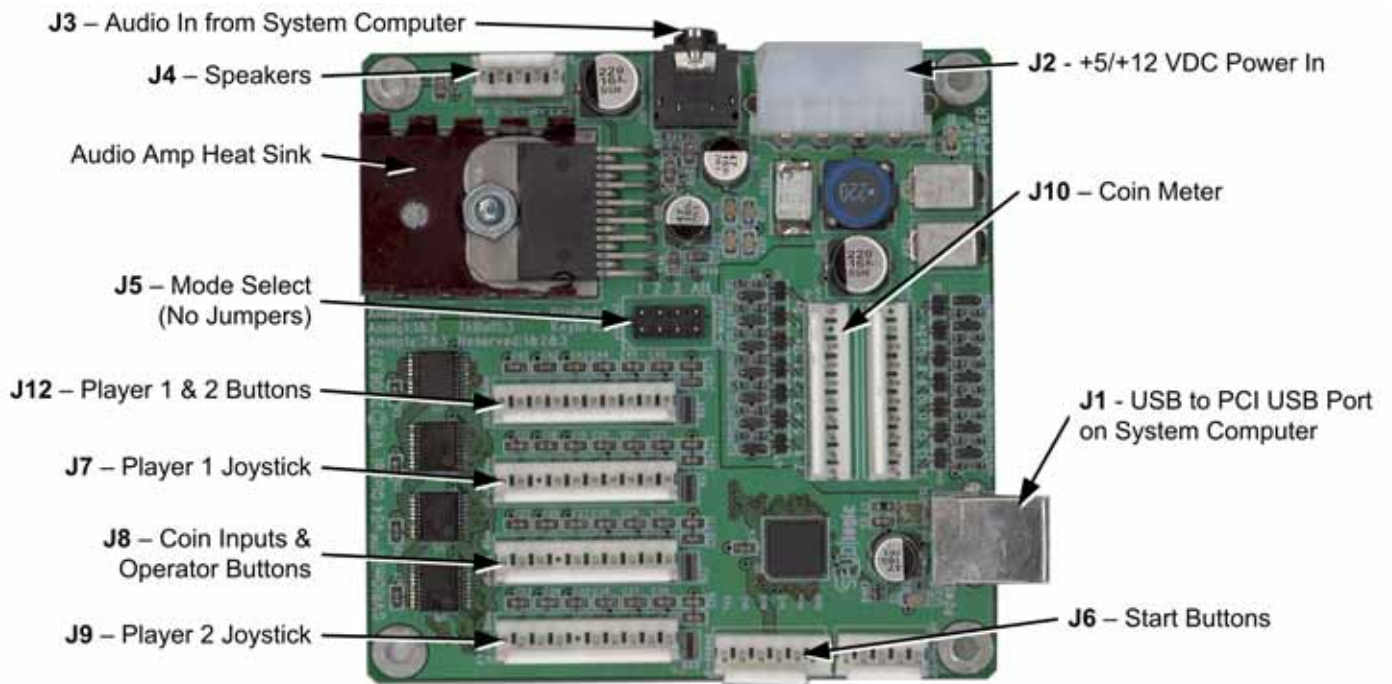
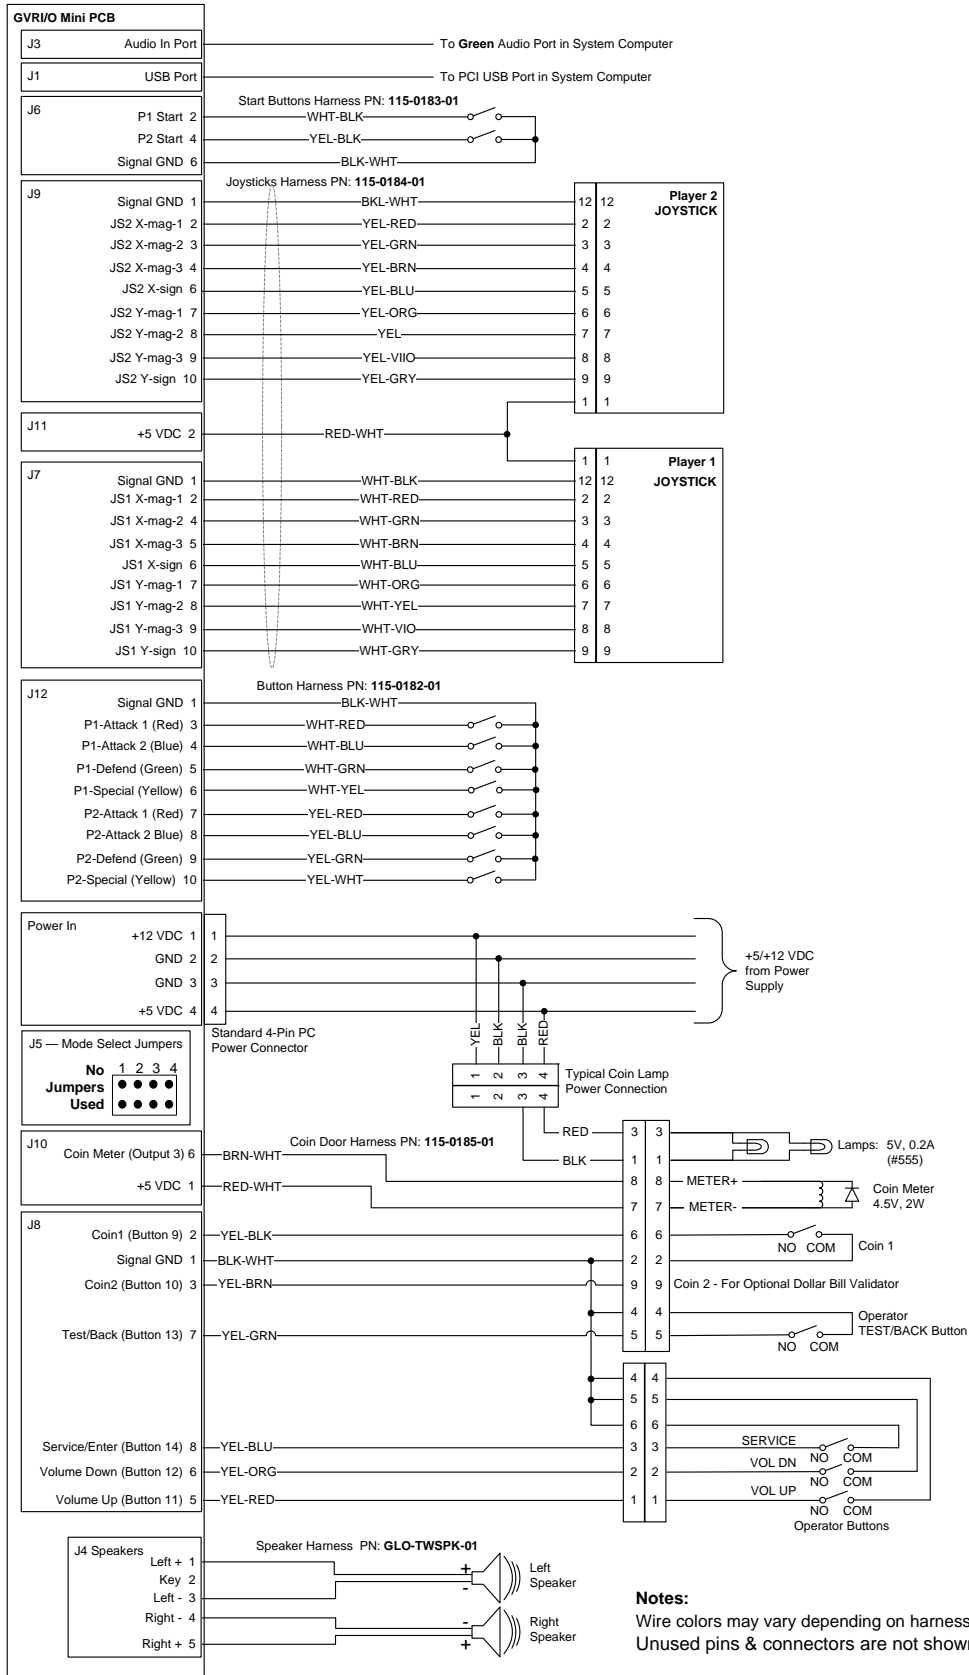

Figure 6. GVR I/O Mini PCB Connections
Figure 13. Detailed I/O Wiring Diagram
4. Refer to Figure 6 when making connections to the GVR I/O MINI PCB. Also see Figure 13 on page 20 for a detailed wiring diagram.